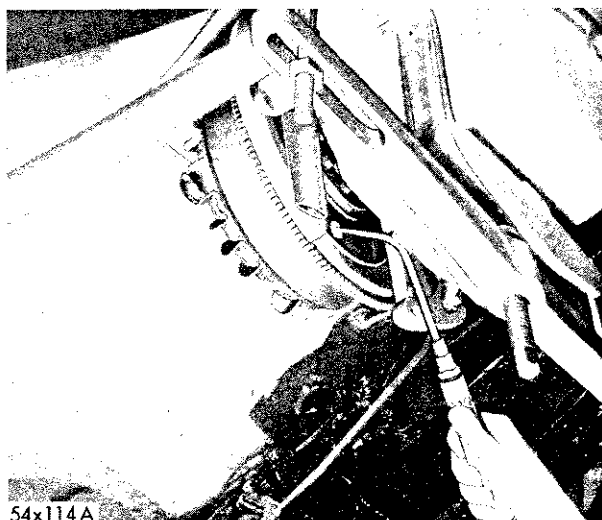

Fig. 101—Heating Torque Converter Showing Heating Operation
(1) It is not necessary to remove the housing to correct runout with heat application, as shown in Figure 101.
(2) Mark the position of the hub low spot as accurately as possible on the impeller shell. Rotate the converter so that this mark is directly down.
(3) Using a piece of chalk, mark the front cover radius directly opposite the hub low spot previously marked on the impeller shell. The subsequent heating operation can now be done at this location, as shown in Figure 101.